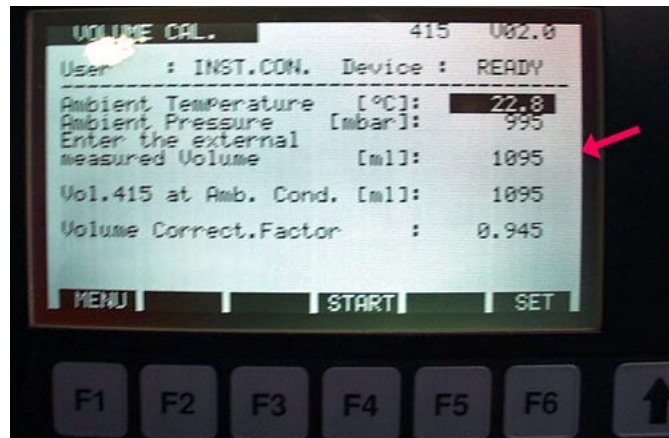

Figure 8
- 121 Record the number the bubble reaches by entering it on the MTS PowerTek Instrument Controller “VOLUME CAL” in the field titled “Enter the external measured Volume [ml]”. See arrow in Figure 8.